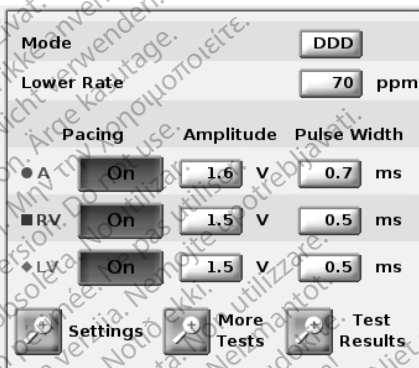

Figure 10. PSA Pacing and Output panel
- PSA Pacing and Output panel (Figure 10 on page 20)